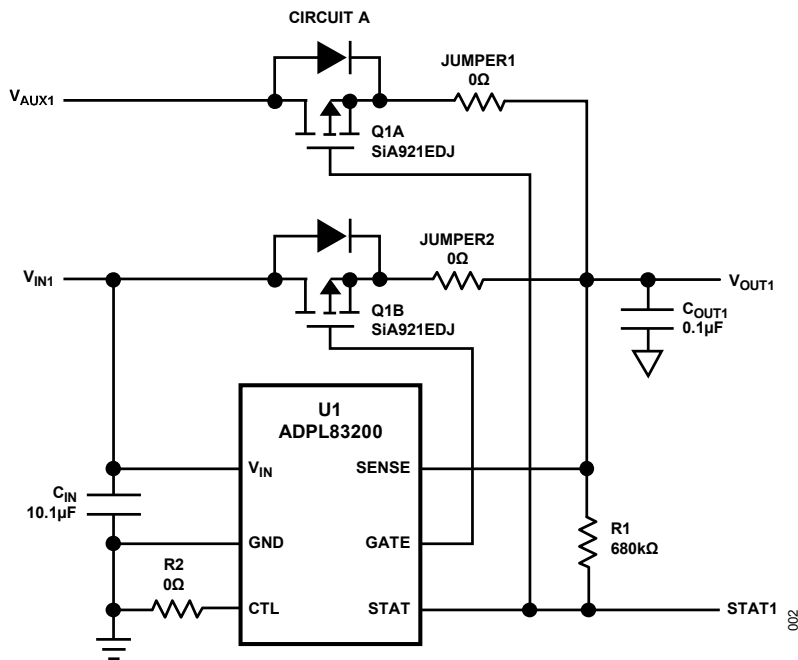

Figure 2. Standard Configurations with Automatic Switchover between Sources
8. For source-load back-to-back isolation, remove jumpers JMP3 and JMP4, then install additional MOSFETs back-to-back as shown in Figure 2.